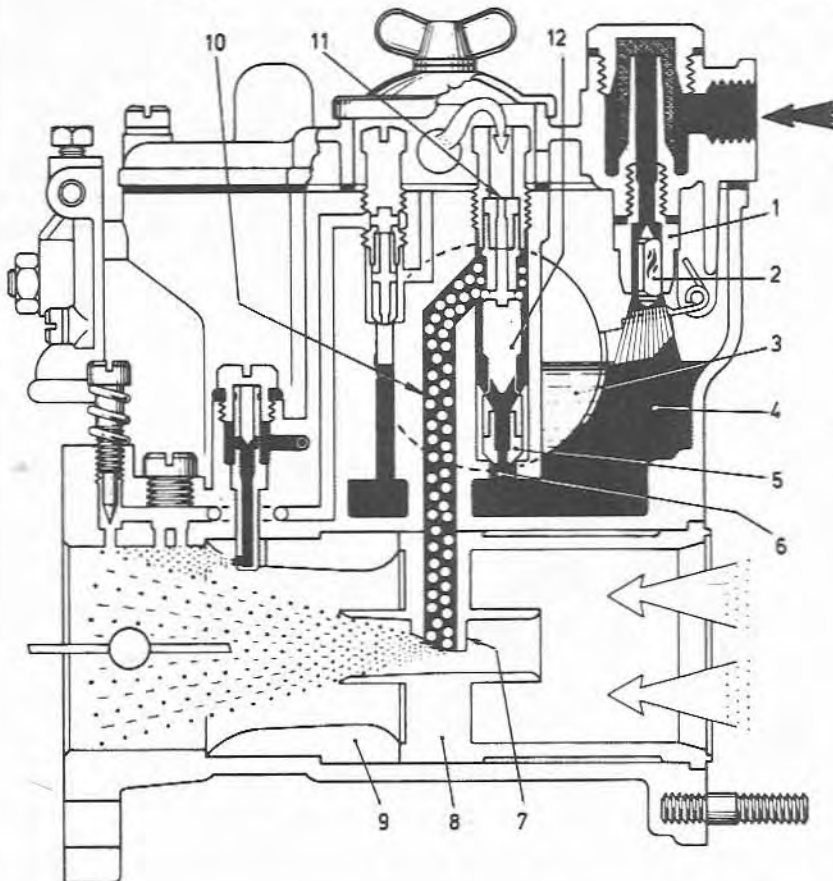

Fig. 11.9 Carburettor normal phase (Sec 3)
Under full throttle and high speed cruise conditions, the throttle plates will be sufficiently far from the idling and progression holes to prevent them from admitting fuel and the main supply circuit will be brought into action. Refer to Fig. 11.9 and note that fuel from the float chamber (4) passes through the apertures (6) to the main jets (5) which are located in the bottom of the emulsion tubes (12). Air is drawn through the air corrector jets (11), through the emulsion tube holes and emulsifies the fuel which then passes through the channels (10) to the auxiliary venturis (8). The fuel mixture then passes through the nozzles (7) and mixes with the main air supply as it is drawn through the chokes (9) and into the engine.